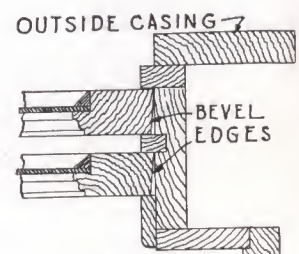

FIGURE 88
- (b) It will be necessary to plane the sash a little in order to make them fit and slide properly. Plane the edges of the window, where they set between the stops in the frame, on a slight bevel rather than straight across (see Figure 88). This will prevent the sash from binding and from rattling.